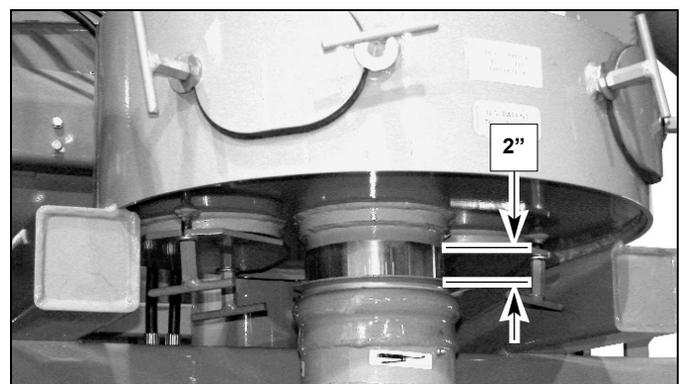

Fig. 19
- 3.3. In order to align the U-pipe with the intake pipe of the distributor, lower the tool bar at 2" from the end of stroke - *fig. 19*. Tighten the U-pipe supports and the half-clamps.